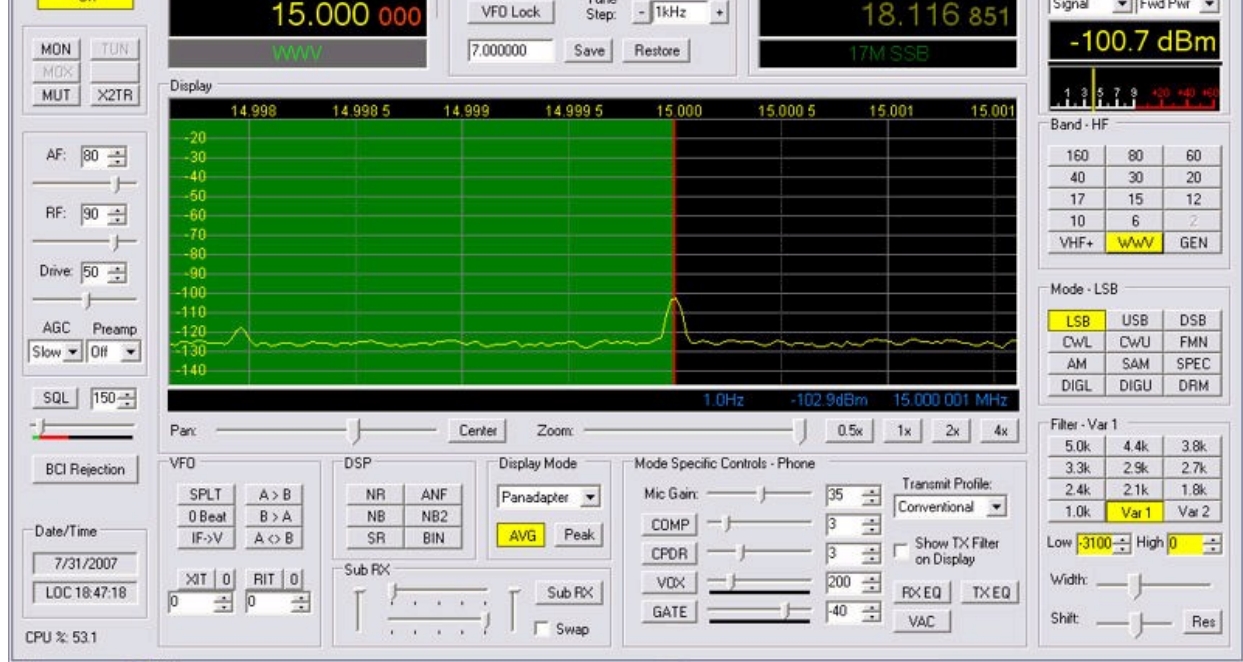

Figure 3 - WWV carrier centered @ 15 Mhz, the result of tweaking the IF center frequency.
5. Once you have started the PowerSDR software - if you are successfully connected to Ham Radio Deluxe or LP Bridge, you will see the type of radio you are controlling in the window title - see figure 3 for an example. If you do not see the radio model, then PowerSDR is unable to establish a connection to the rig control program. You will receive a pop up warning message when PowerSDR/IF Stage cannot establish a connection to the rig control program.
After you have entered these values into the setup menu, you will then need to tune in a strong signal where the exact frequency is known. For instance a local AM broadcast station, WWV or a signal generator will work. Use the panadapter to view the strong signal and make corrections to the IF center frequency for each mode to perfectly align the signal with the PowerSDR's VFO display. Figure 3 shows the peak of the carrier of WWV centered right at 15 Mhz.